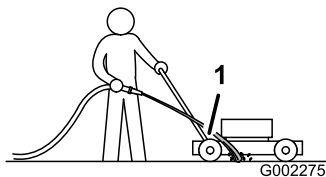

Figure 26
3. Hold the running garden hose at handle level and direct the water to flow on the ground just in front of the right rear wheel (Figure 26).